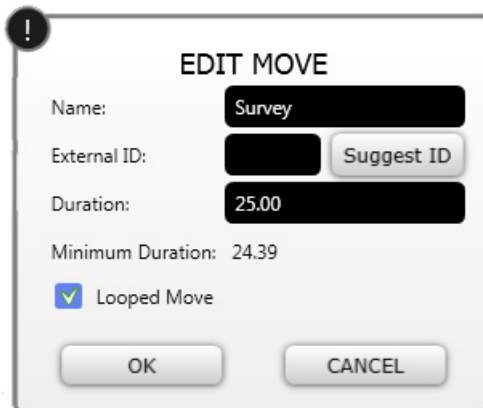

Figure 51 - EDIT MOVE Dialog Box
2. Tap the move you want to change. The **EDIT MOVE** dialog box appears (Figure 51).
The **EDIT MOVE** dialog box appears (Figure 51).